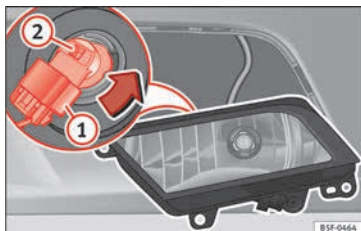

Fig. 114 Front fog light.
- Remove connector » Fig. 114 (1) from the bulb.
- Turn the bulb holder » Fig. 114 (2) anti-clockwise and pull.